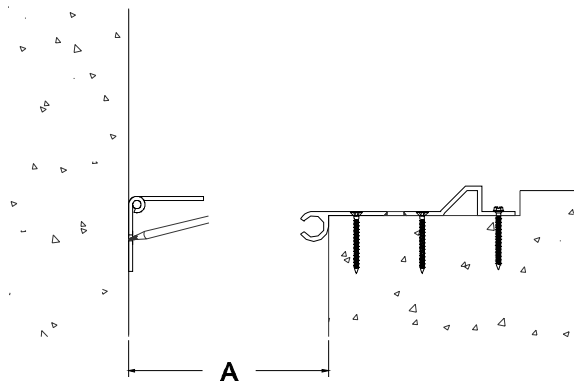

Figure 6
STEP 8. Place the hinge into its proper installed position. Ensure that the hinge is at the correct elevation and that it is level, straight, and plumb. Using the hinge as a template, mark the locations for the anchors on the wall (see Figure 6). Remove the hinge from its installed position, and drill the anchor holes for the hinge anchors into the concrete at the marked locations. Drill the anchor holes $1/4$ " deeper than the length of the anchors. Clean away all dust and debris from the joint.